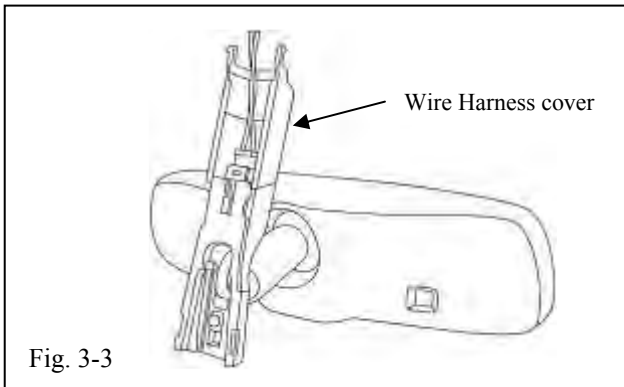

Fig. 3-3
- (d) Slide the wire harness cover over the wire harness and extend to completely cover wire harness. (Fig. 3-3)
- (1) Be sure the bottom of cover is securely mounted to base.
- (2) Be sure top of cover is fully extended into headliner.
- (3) Be sure the mirror has full range of movement.